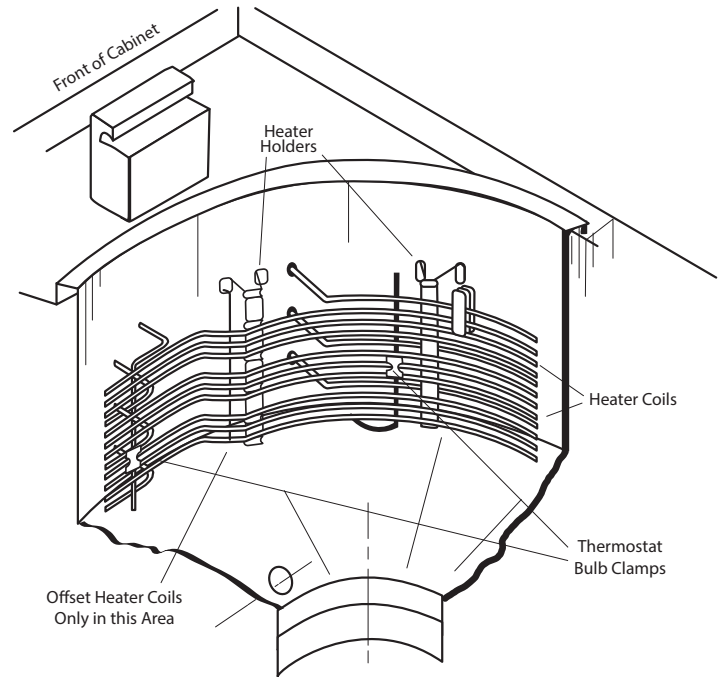
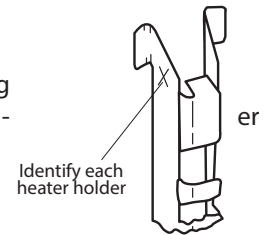

Figure 3
Figure 4
12. Mark the heater holders (see Figure 4) and remove the nuts securing the heater holders to the fryer pot (if applicable) (see Figure 3). Save nuts for reuse. Note: If fryer has heater protectors, they are also removed at this time.
16. Place the new heaters into position. Be sure to note the position of the coil offset (if applicable) (see Figure 3).